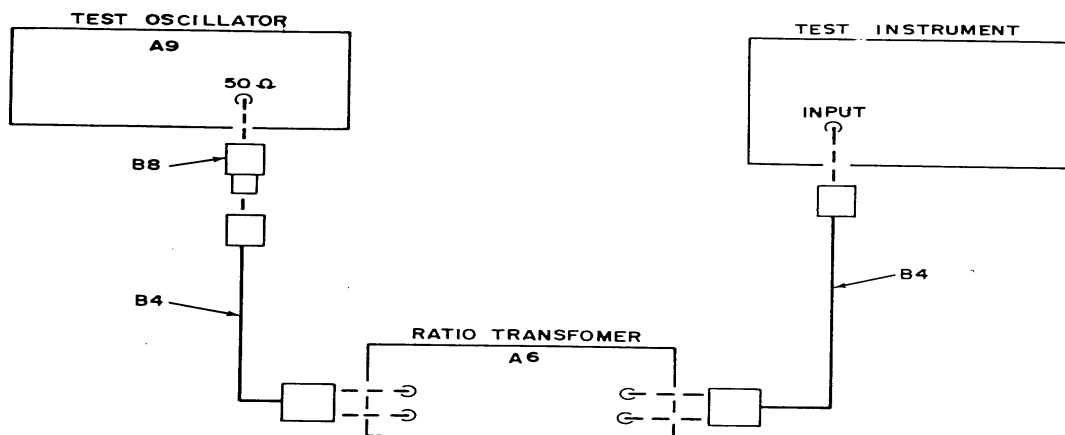

Figure 3. Range accuracy-equipment setup.
(1) Adjust GAIN control fully clockwise.
(2) Connect equipment as shown in figure 3.
- (1) Connect equipment as shown in figure 3.
- (2) Set ratio transformer (A6) controls to .100000.
- (3) Adjust test oscillator (A9) frequency for 1 kHz and amplitude for an on-scale indication.
- (4) Adjust test oscillator frequency for a peak indication on TI meter and reduce amplitude as necessary to maintain an on-scale indication.
- (5) Adjust test oscillator amplitude for a 0-dB indication on TI meter. Test oscillator output meter will not exceed 1 V rms.
- (6) Vary autotransformer output from 105 to 125 V ac and back to 115 V while maintaining 0 dB indication on TI meter with test oscillator amplitude control. Test oscillator output will not exceed 1 V rms.
- (7) Adjust test oscillator amplitude to 0.03 V and record TI meter indication.
- (8) Disconnect test oscillator and connect termination (B7) to TI INPUT.
- (9) Set RANGE switch to 60. TI meter indication will be less than (down scale) indication recorded in (7) above.
(1) Adjust test oscillator (A9) amplitude to minimum and set TI VERNIER and GAIN controls fully clockwise.
(2) Set INPUT SELECTOR switch to XTAL 200Ω.
(3) Connect equipment as shown in figure 3.
(4) Set ratio transformer (A6) controls to .100000.
(5) Adjust test oscillator frequency for 1 kHz and amplitude for an on-scale indication on TI meter.
(6) Adjust test oscillator frequency control for peak indication on TI meter and adjust amplitude for a 0-dB indication on TI meter 0 to 10 DB scale.
(7) Set ratio transformer controls to .010000 and set TI RANGE switch to 10.
(8) Adjust ratio transformer controls for a 0-dB indication on TI meter. Ratio transformer will-indicate between .009772 and .010233.